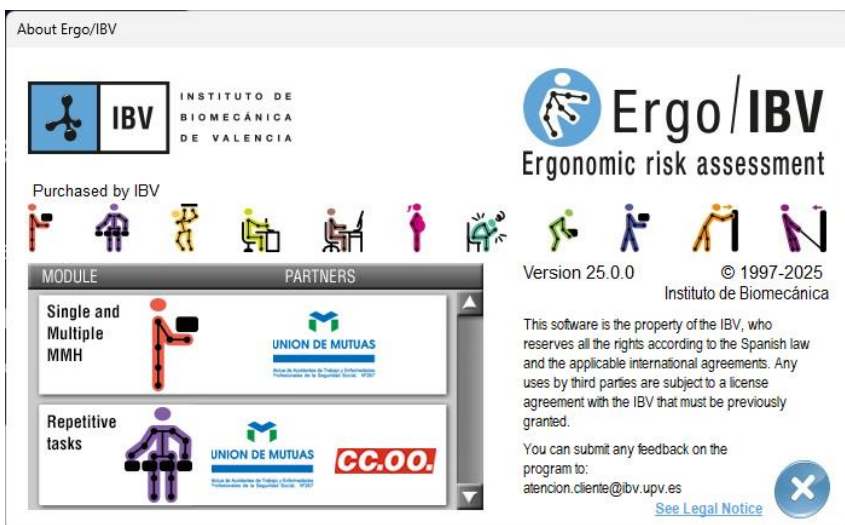

Figure 6. About (Help menu)
- **About** (Figure 6): it provides information on the current version of the program, including the organizations that have worked with the IBV in the development of the application *modules*. It also gives access to the Ergo/IBV license agreement.